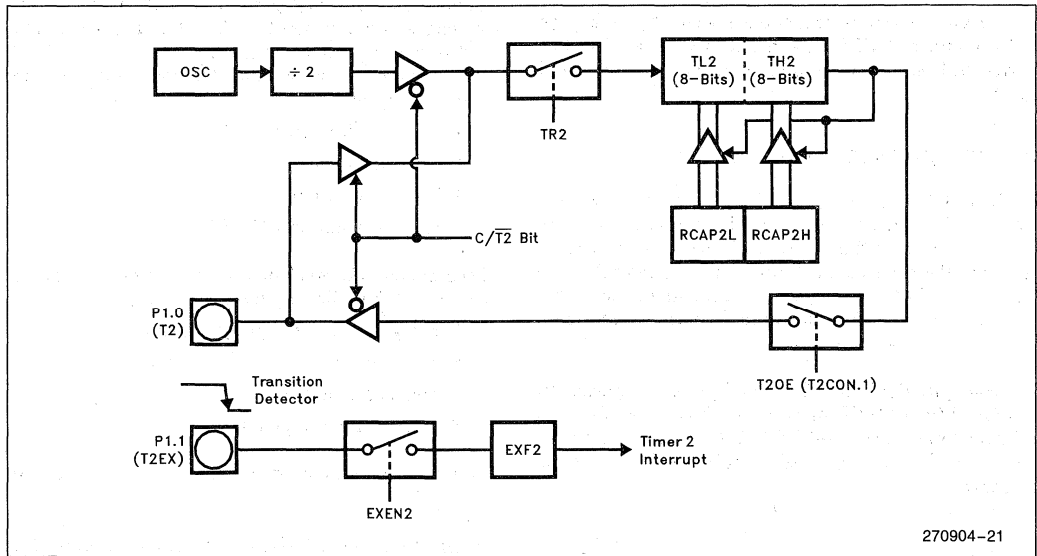

Figure 16. Timer 2 in Clock-Out Mode
A 50% duty cycle clock can be programmed to come out on P1.0. This pin, besides being a regular I/O pin, has two alternate functions. It can be programmed (1) to input the external clock for Timer/Counter 2 or (2) to output a 50% duty cycle clock ranging from 61 Hz to 4 MHz at a 16 MHz operating frequency. See Figure 16.